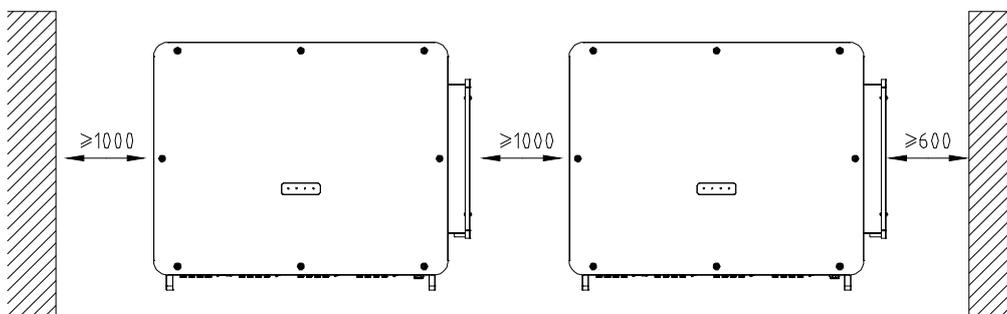

FIG 3-4 Multiple inverters installation space
- 2) When installing multiple inverters, ensure that there is adequate spacing between each unit to allow for proper ventilation and avoid overheating, as shown in FIG 3-4.